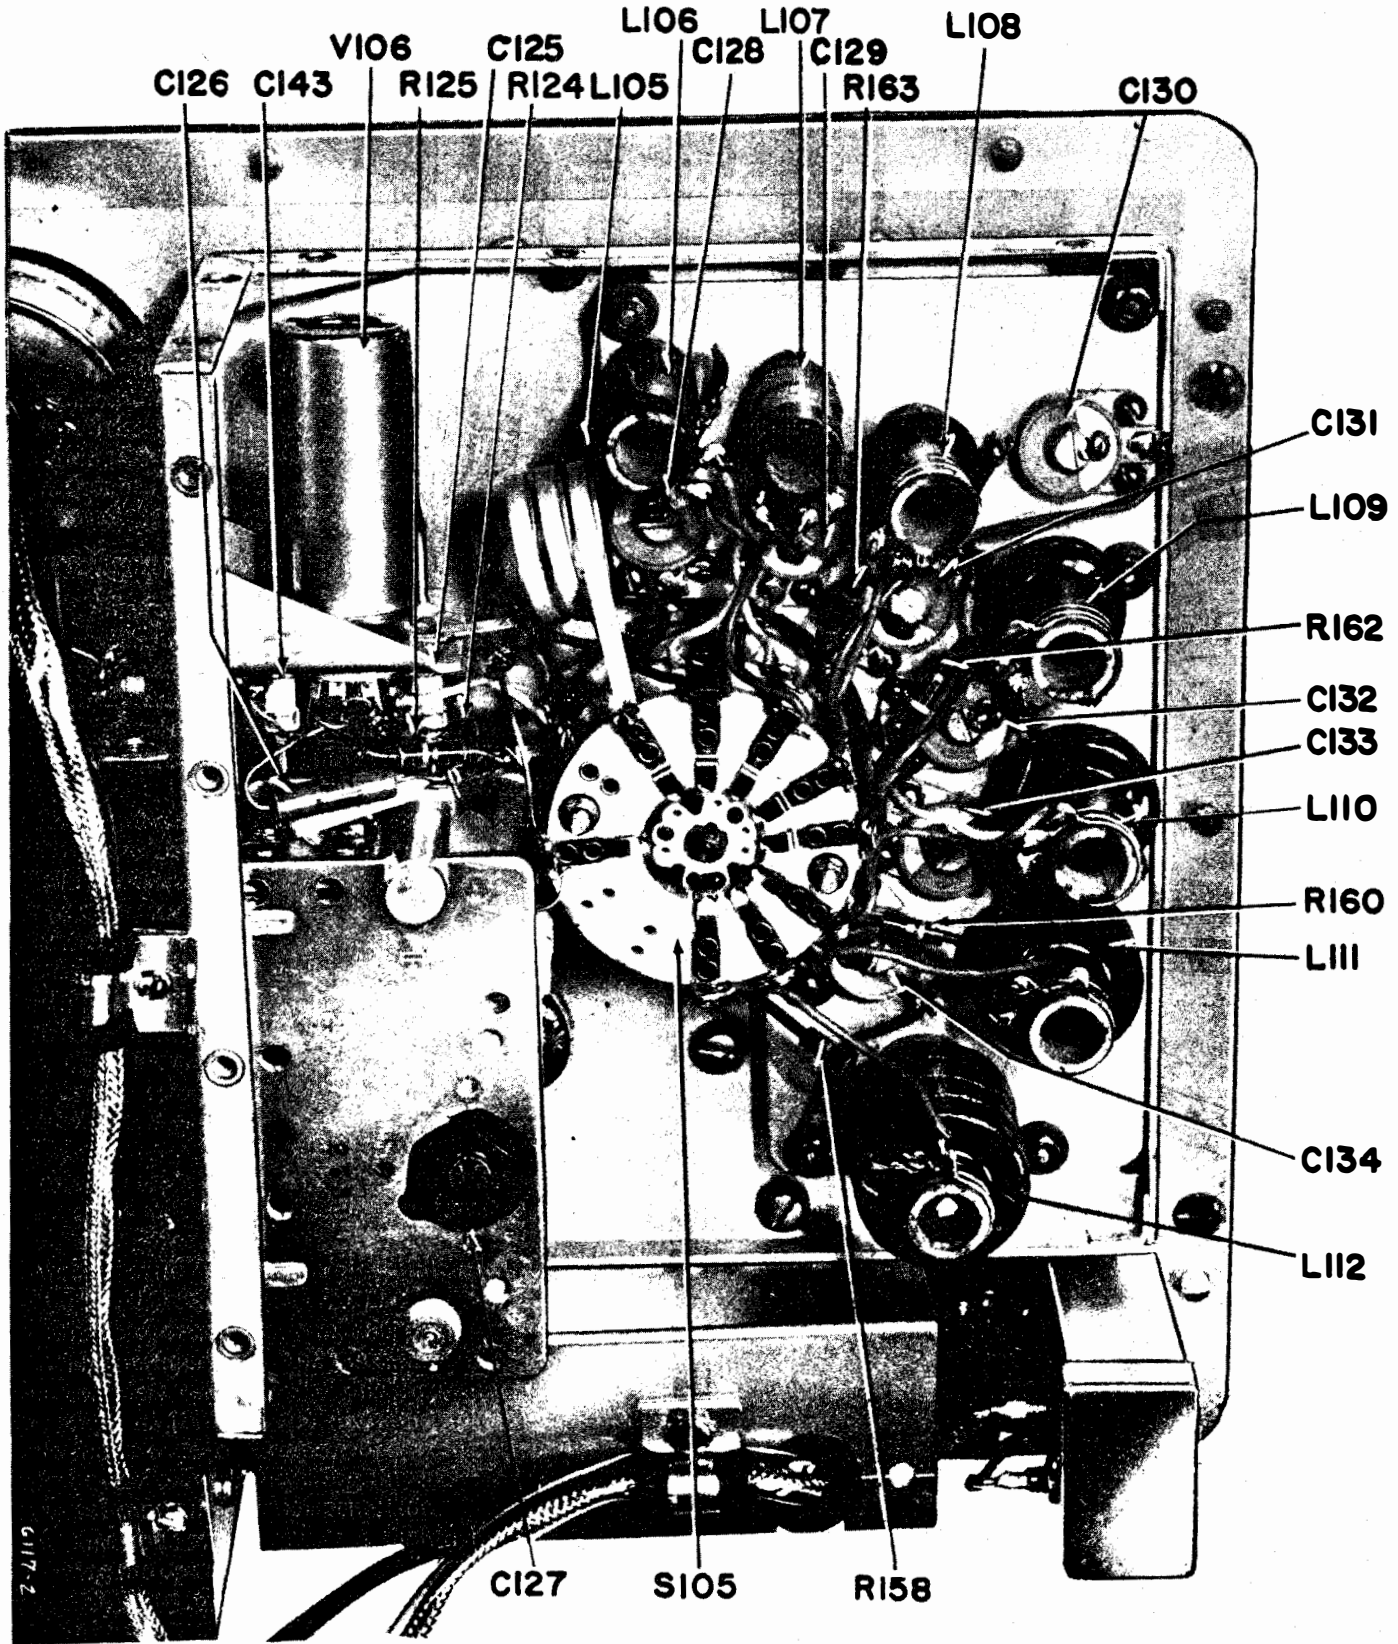

Figure 6-7. Interior View of Carrier Oscillator Compartment
(See figure 6-7)
- (1) Navy Model LR Frequency Meter (160 kc to 30 mc).
- (2) Signal Generator TS-535/U (7 to 160 kc).
- (3) Set of earphones for zero beating the frequency meters.
b. Figure 6-7 indicates the locations of the trimmers and inductances that may require readjustment. Make sure that only the parts relevant to the frequency band being calibrated are adjusted. Do not turn screws indiscriminantly but follow the calibration procedure.
(See figures 6-7 and table 6-1)
(See figure 6-7 and table 6-1)
(1) Identify the coil that must be readjusted (See figure 6-7).
(2) Set the main tuning dial (I-103) at the selected calibration point for the range in question.
(3) Note the original position of the core slot in the coil form. Move the core slightly in the required direction.